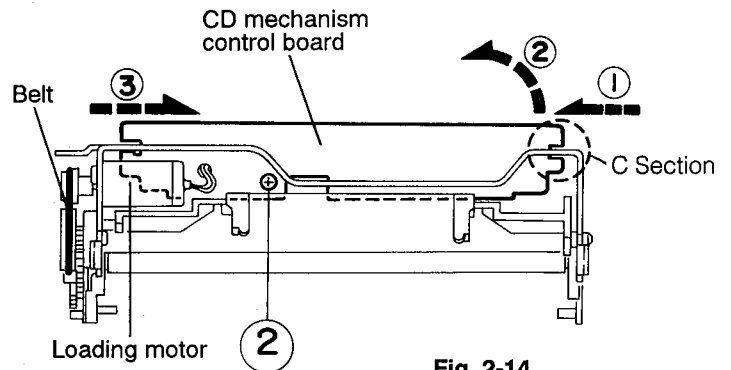

Fig. 2-14
8. Remove the one screw ② retaining the CD mechanism control P. C. board (See Fig. 2-14).
9. After disengaging the engagement between the notch section ㉔ and frame, remove the CD mechanism control P. C. board successively from arrow ① through to arrow ③ in the arrow direction as shown in Fig. 2-14.
1. Remove the belt from the loading motor (See Figs. 2-14 and 2-15).